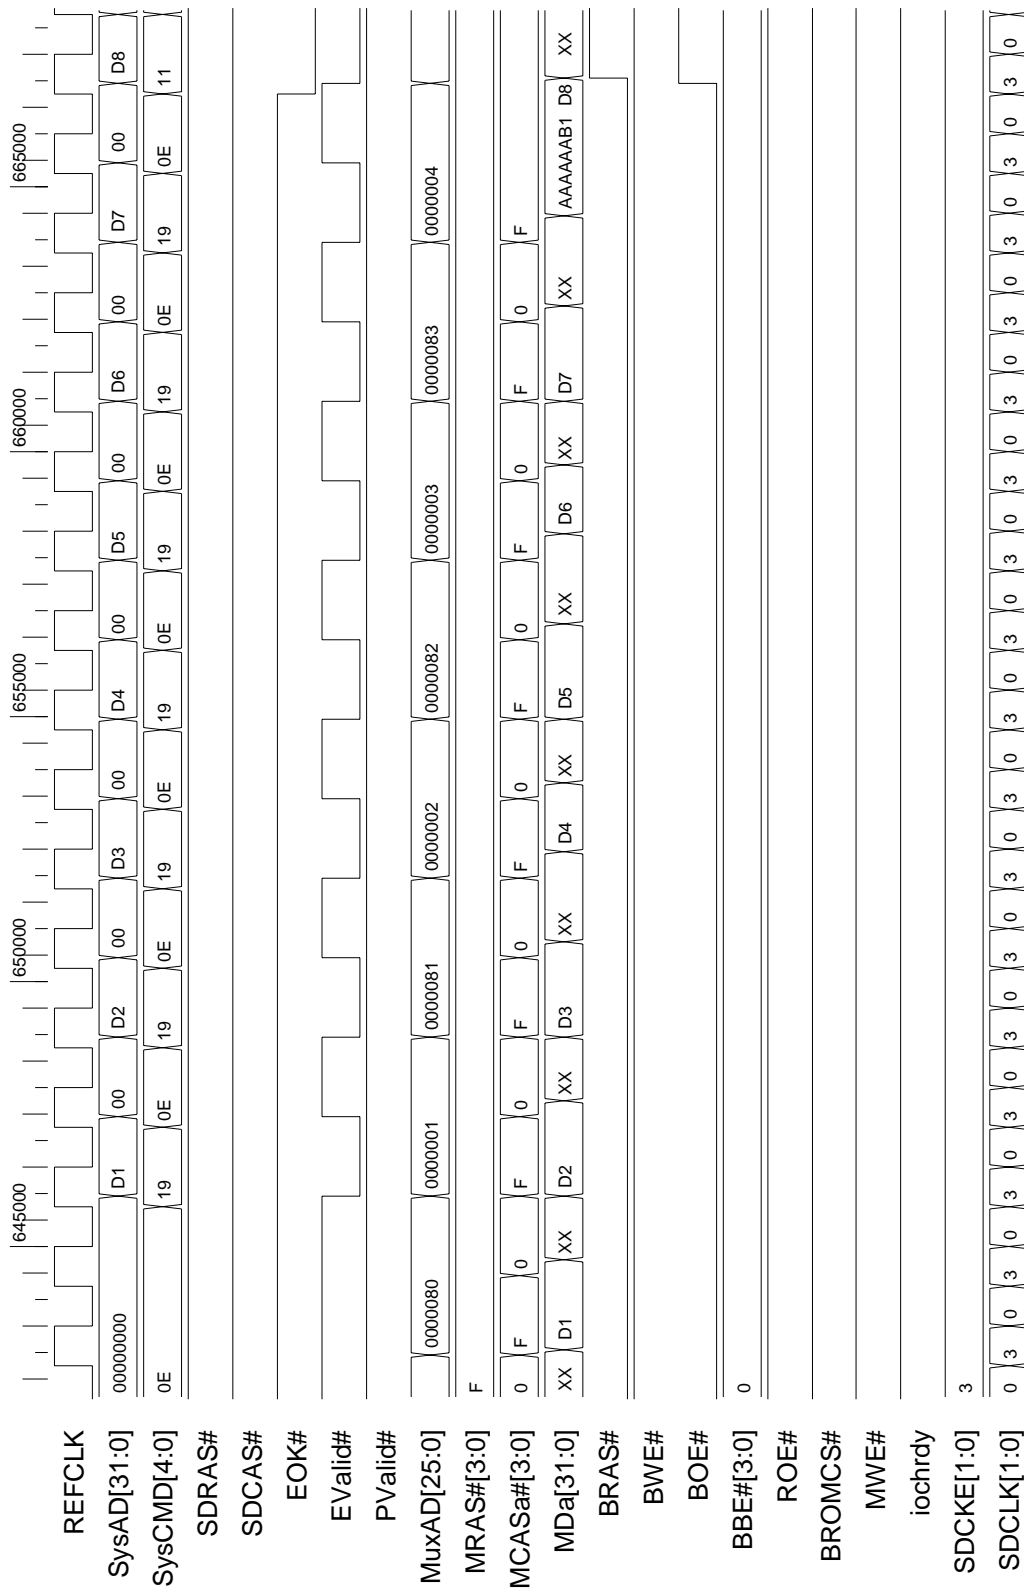

Figure 37. CPU Octet Read from EDO Base Memory (3 of 3)
- Figure 37, CPU Octet Read from EDO Base Memory (3 of 3), on page 124